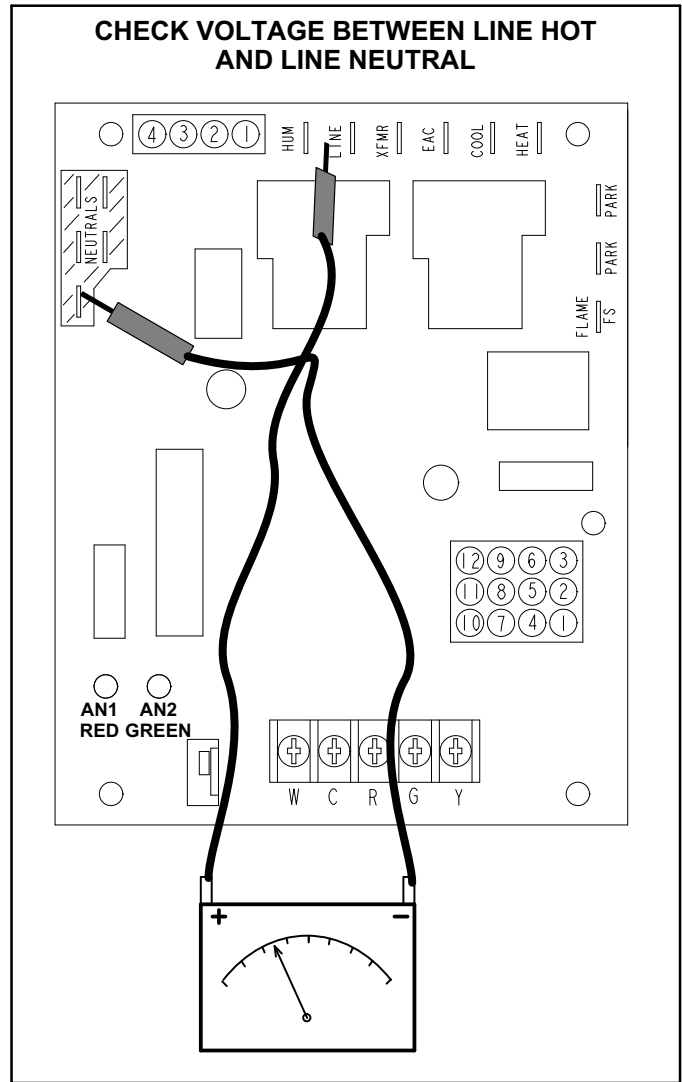

FIGURE 56
- 2 - In addition, measure the AC voltage from Line Hot to Line Neutral (spade terminals) on the integrated control. See figure 56. This voltage should be in the range of 97 to 132 Vac